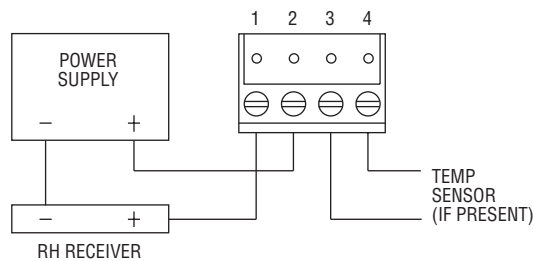
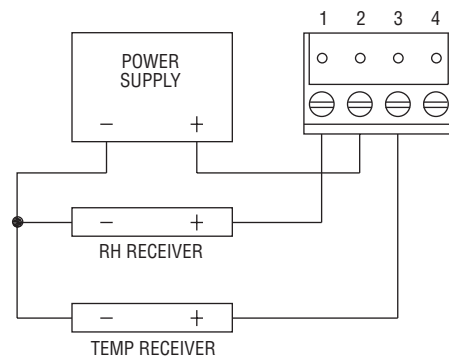

Figure 1
Figure 2
5. Proceed with wiring according to Figure 1.
Use maximum 18 AWG wire for wiring terminals. Refer to Figure 1 or Figure 2 for wiring information. Terminal blocks are removable for ease of wiring.
4-20 mA output units may be powered with a 10-35 VDC supply. (Wire as shown in Figure 1).
Dual 4-20 mA output units may be powered with a 10-35 VDC supply. The following describes the proper wiring of these transmitters: The model RHP transmitter with dual 4-20 mA output is designed as a two-wire 4-20 mA device with two channels. The channels are common on the positive side of the current loop. Sensor excitation power is derived from the RH channel, so power must always be applied to that channel. If the temperature channel is not used, it can be left disconnected. Wire as shown in figure 2.